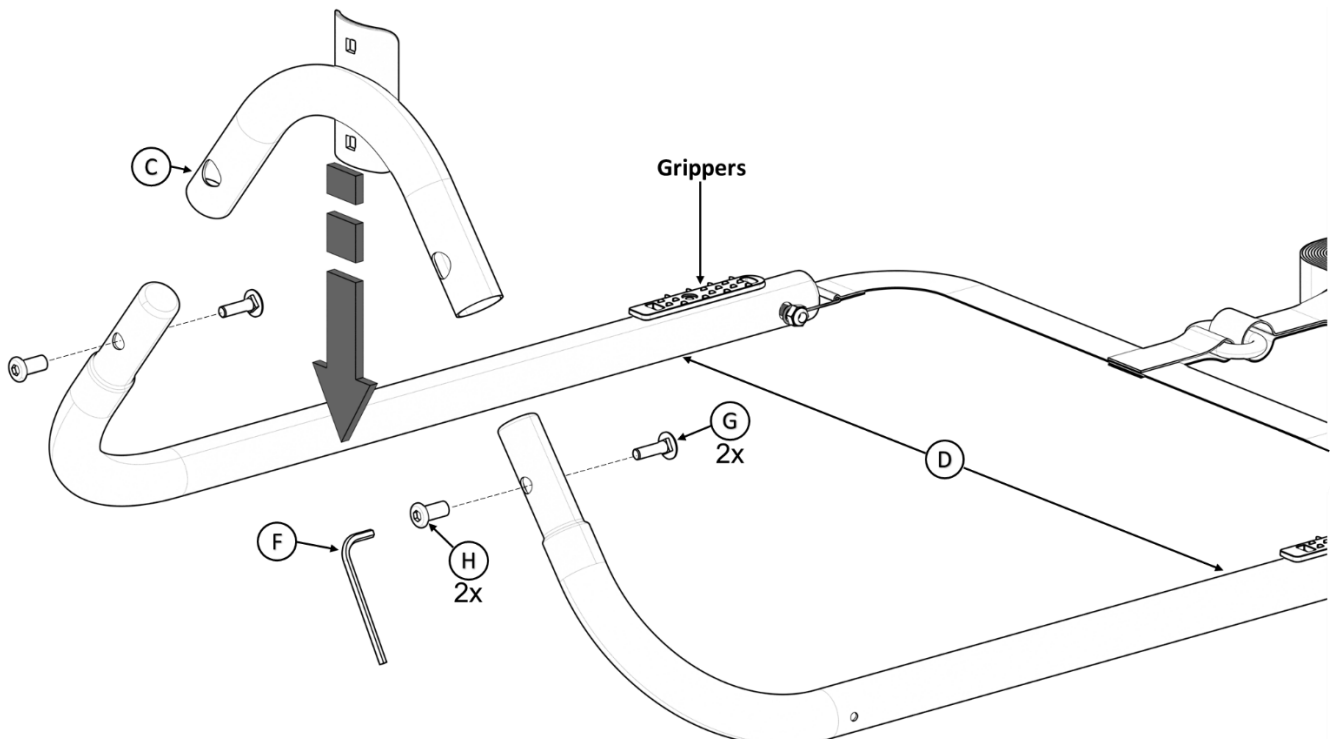

FIGURE 2
2. Orient **Grippers** as shown in *FIGURE 2*. Attach **C** to **D** with **G** and **H** using the tool provided (**F**).